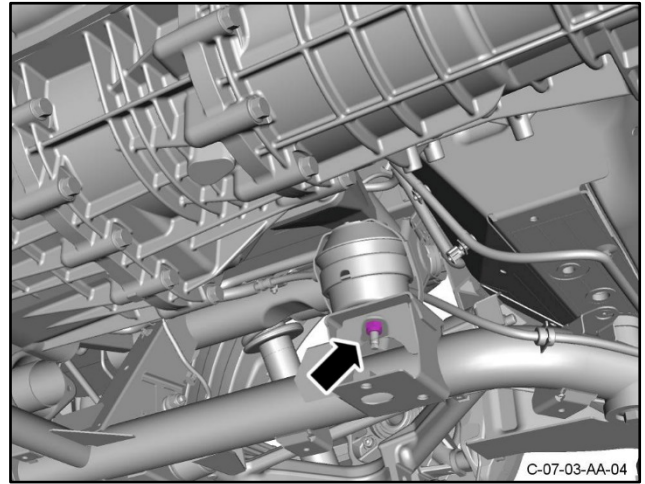

Figure 56
- 111.** Install the nut that attaches the left side transaxle mount to the rear subframe (refer to Figure 56). Torque the nut to 48 Nm.